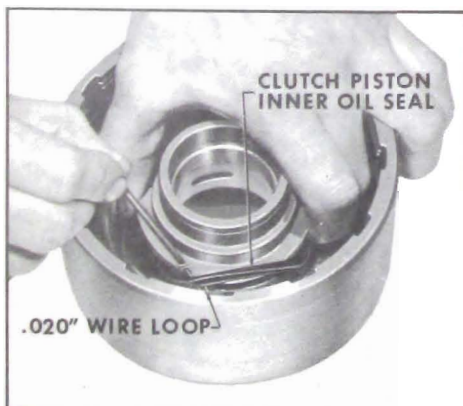

Figure 5-220
11. Examine forward clutch piston inner seal. If nicked, torn or worn, remove seal. See Figure 5-220.